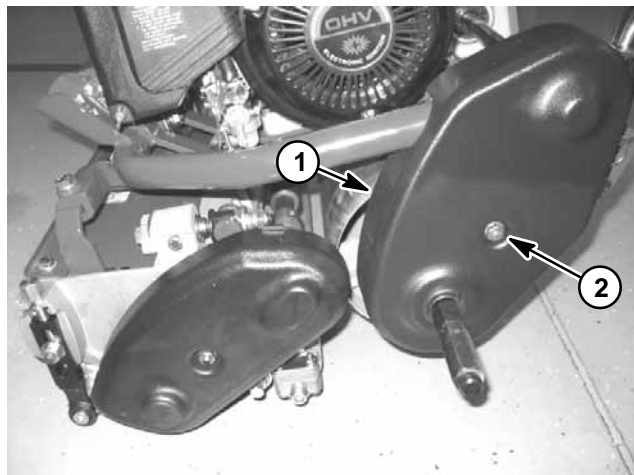

Figure 9
3. Remove flange nut that secures the belt cover (Fig. 9). Remove belt cover to expose the traction drive belt.